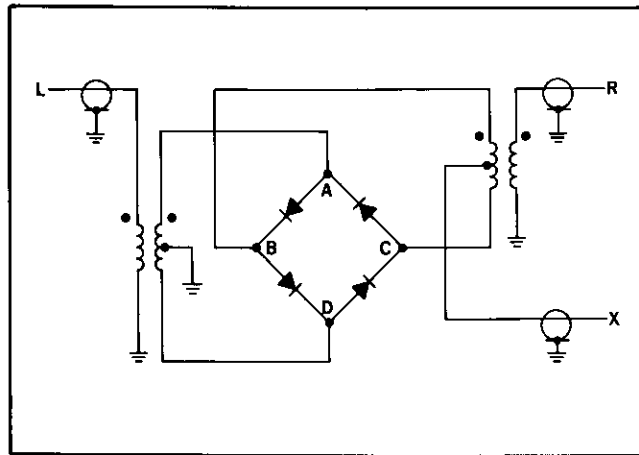

Figure 9. Schematic Diagram
26. The circuit of the Model 10534A, B Mixer (Figure 9) is commonly known as a double-balanced, or ring modulator. Note that the diodes are all connected with the cathode of one connected to the anode of the next, "short-circuiting" the transformer secondaries; this is not the same circuit as a rectifier bridge.
31. With no input at X, an input signal at L appears greatly attenuated at R. Applying a dc control current at X causes conduction of a pair of diodes, which then act like resistors in series in a link-coupling circuit. When sufficient dc current is applied at X to cause a pair of diodes to act like small resistors, the secondary windings of the left and right transformers (refer to schematic diagram Figure 9) are connected together and the input at L will be available at the output R. Attenuation is inversely proportional to the dc current applied at X.